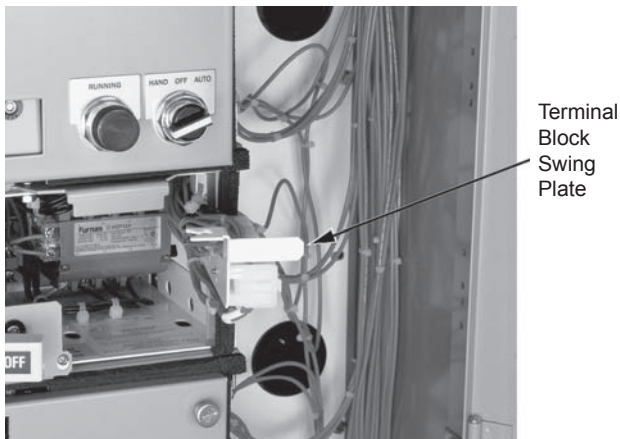

Figure 9
1. To wire the unit, rotate the terminal block swing plate as shown in Figure 9.